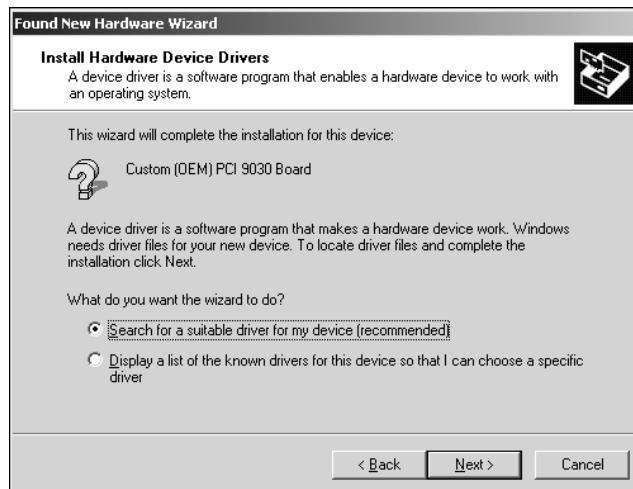

Figure 2-12: Install Hardware Device Drivers dialog
4. The Install Hardware Device Drivers dialog appears. Select **Search for a suitable driver for my device (recommended)** (see Figure 2-12 on page 2-10) and then select **Next** to continue.